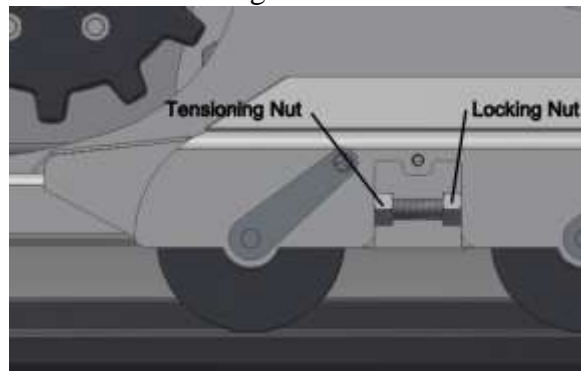

Figure 25: Track tensioning system
- 2) Loosen the locking nut, towards unit front, and adjust the tensioning nut to the desired tension level as seen in Figure 25.